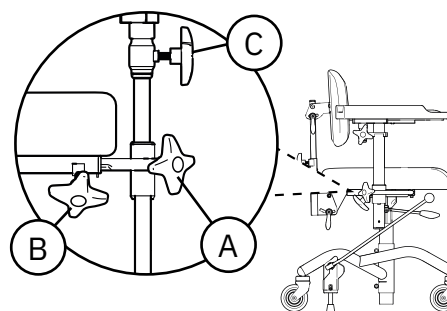

Figure 5.36. Hemiplegia armrest.
The Hemiplegi armrest is adjustable in height (A), width (B) and rotation (C), see Figure 5.36.